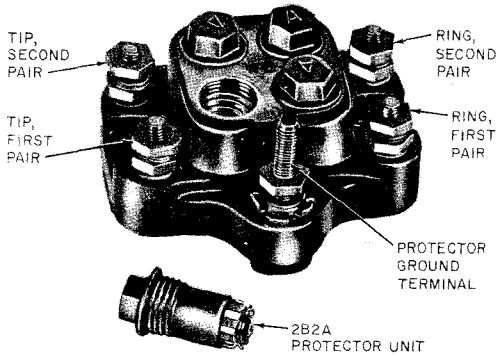

Fig. 6—128A1A-2 Protector
3.09 The 128A1A-2 protector (Fig. 6) provides protection for two pairs of wires. The protector should be grounded with a No. 12 ground wire (Table B).